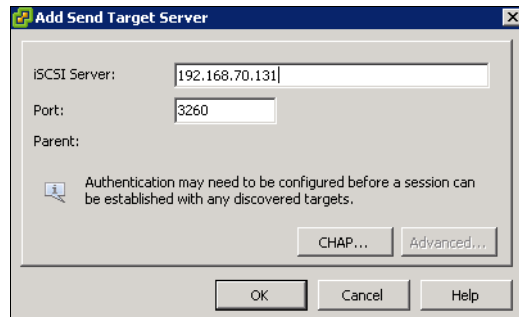

Figure 5-56 Enter a target IP address
4. To add a target, enter the target IP address (Figure 5-56 on page 161). The target IP address is the IP address of a node in the I/O group from which you are mapping the iSCSI volume. Keep the IP port number at the default value of 3260, and click **OK**. The connection between the initiator and target is established.